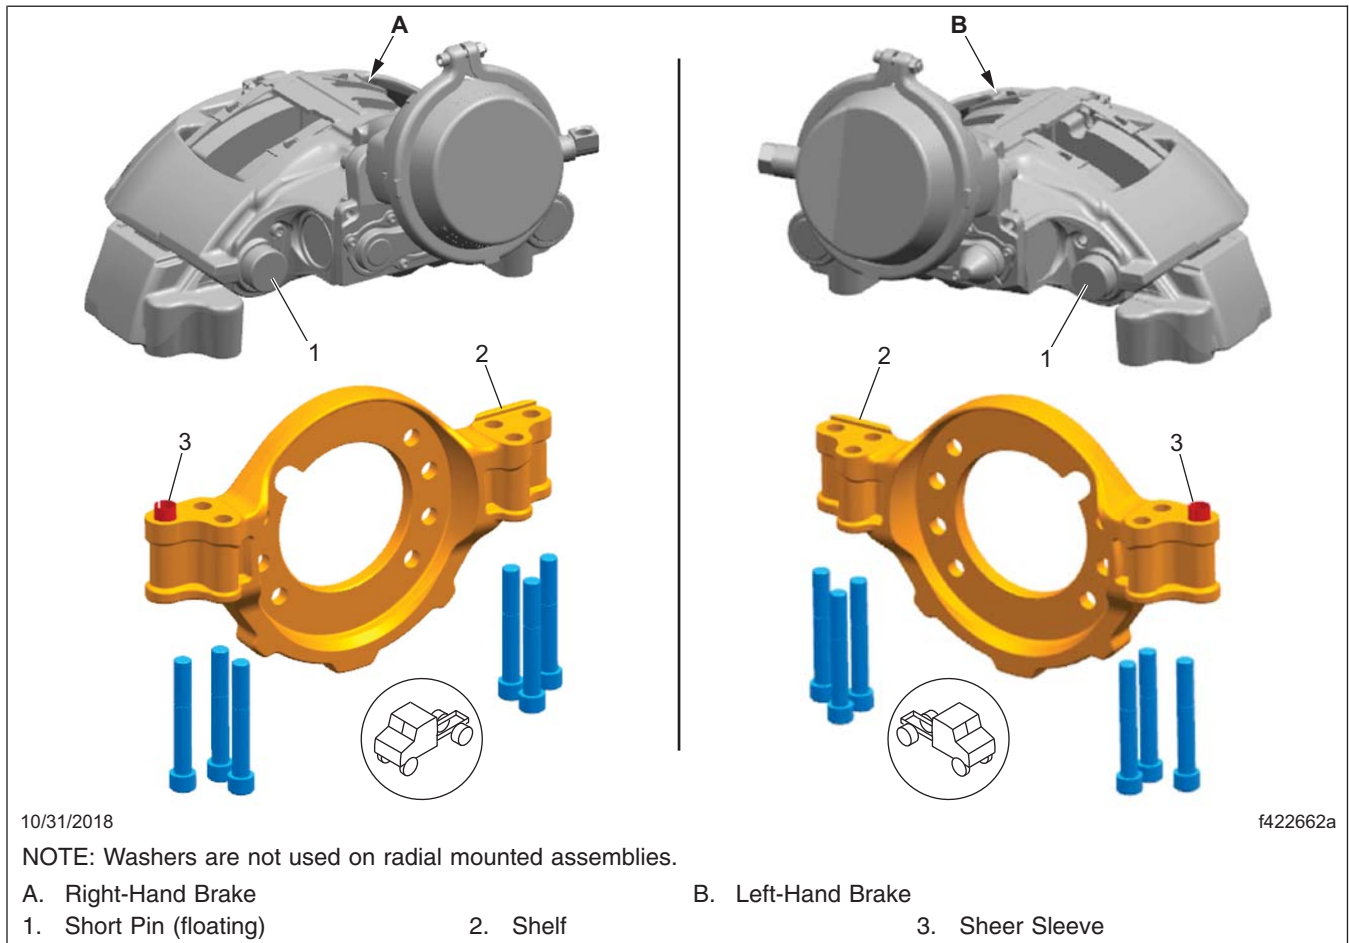

Fig. 4, Bendix Radial Mounted Caliper
9. Align each caliper/carrier assembly with the rotor by pushing the fixed pin side of the caliper against the shelf on the torque plate, then install the caliper/carrier assembly using new caliper mounting bolts. See Fig. 4.